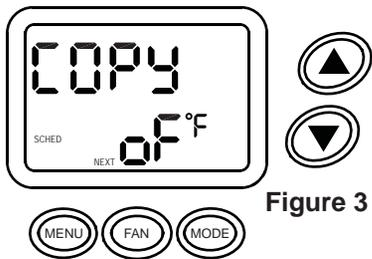

Figure 3
10. When the SLEEP event schedule has been completed COPY OFF will appear on the display (Figure 3).